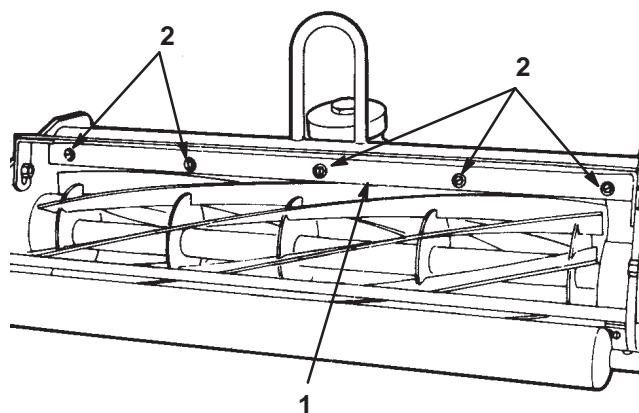

Figure 9
1. Loosen the screws securing the top bar (Fig. 9). Insert a 0.06 in. (1.5 mm) feeler gauge between the top of the reel and the bar and tighten the screws (Fig. 9). Ensure that the bar and reel are an equal distance apart across the entire reel.